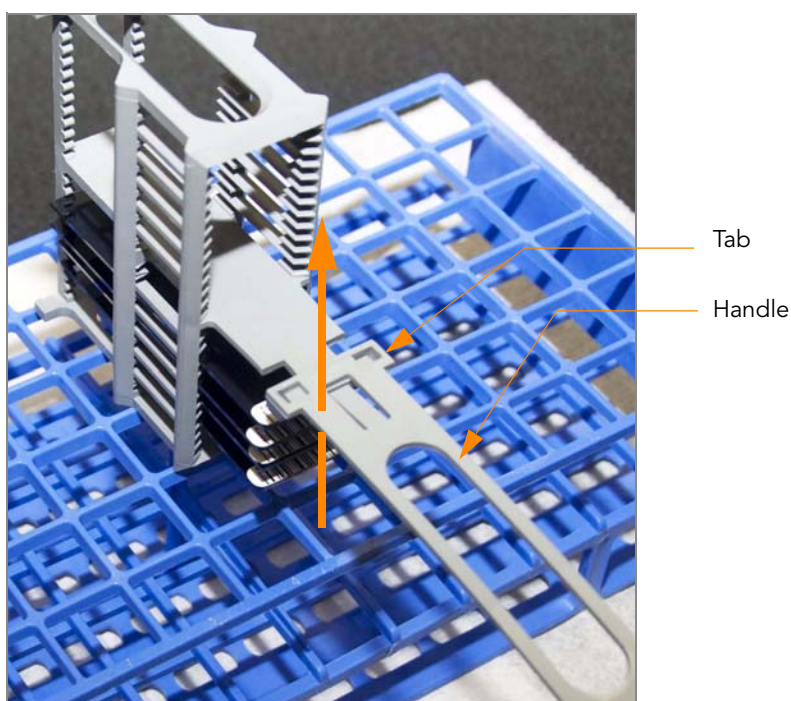

Figure 181 Removing Staining Rack Handle
26. Holding the top of the staining rack in position, grasp the handle between your thumb and forefinger. Push the tab up with your thumb and push the handle away from you to unlock it. Pull up the handle and remove (Figure 181).